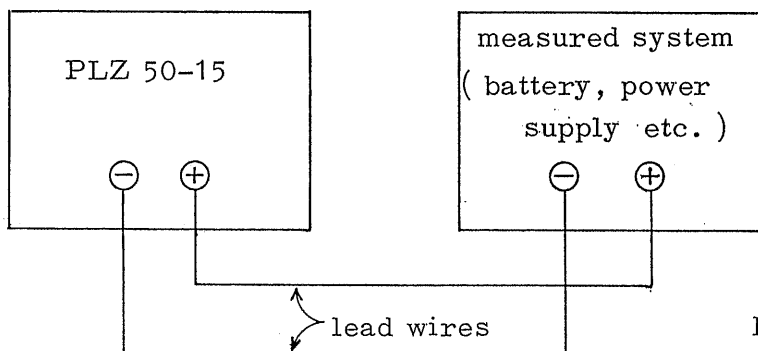

Fig. 5
- 3) Turn the DC switch to ON, and you can get constant current by turning the LOAD knob clockwise. (Refer to Fig. 5)